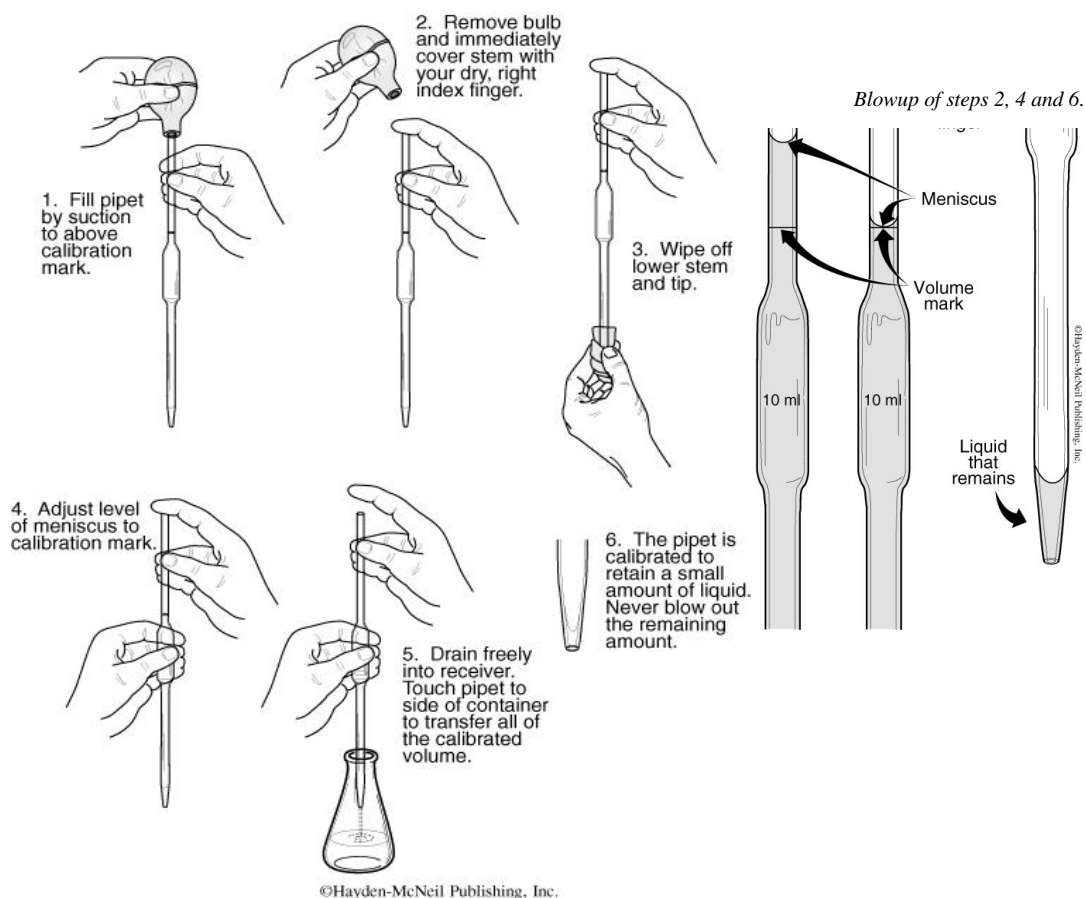

Figure 3. Using a Volumetric Pipet.
1. First, be sure your pipets are clean (review figure 3 before using your pipets). The pipet bulb should have a plastic pipettor tip or adaptor that makes the bulb easier to use. If the bulb draws the liquid up slowly make sure the plastic tip or adaptor and bulb make a good seal. Take some time to practice using your pipets.